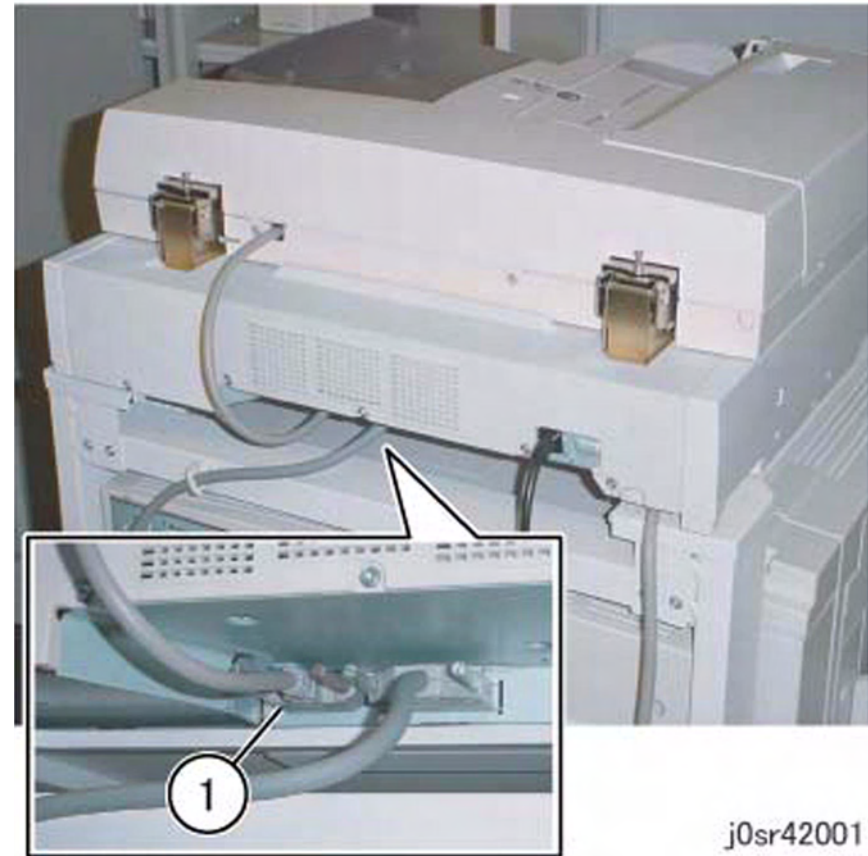

Figure 1 Disconnecting the connector
1. For DADF models, disconnect the connector (Figure 1).